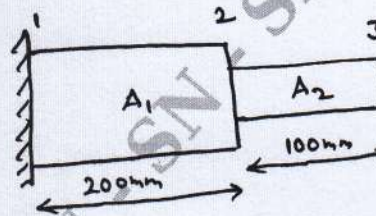

Fig Q10
- 10 Evaluate eigen vectors and eigen values for the stepped bar shown in Fig Q10. Take $E = 200 \text{ GPa}$ and specific weight 7850 kg/m^3 . Draw mode shapes, $A_1 = 400 \text{ mm}^2$, $A_2 = 200 \text{ mm}^2$.